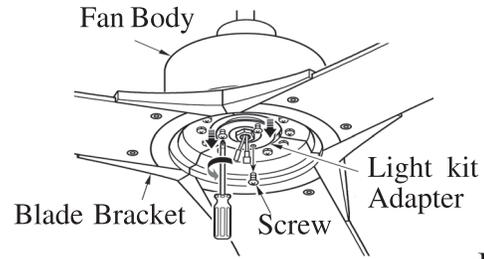

FIG.12
1. Remove 1 of 3 screws on light kit adapter, and loosen the other 2 screws. (See fig.12)